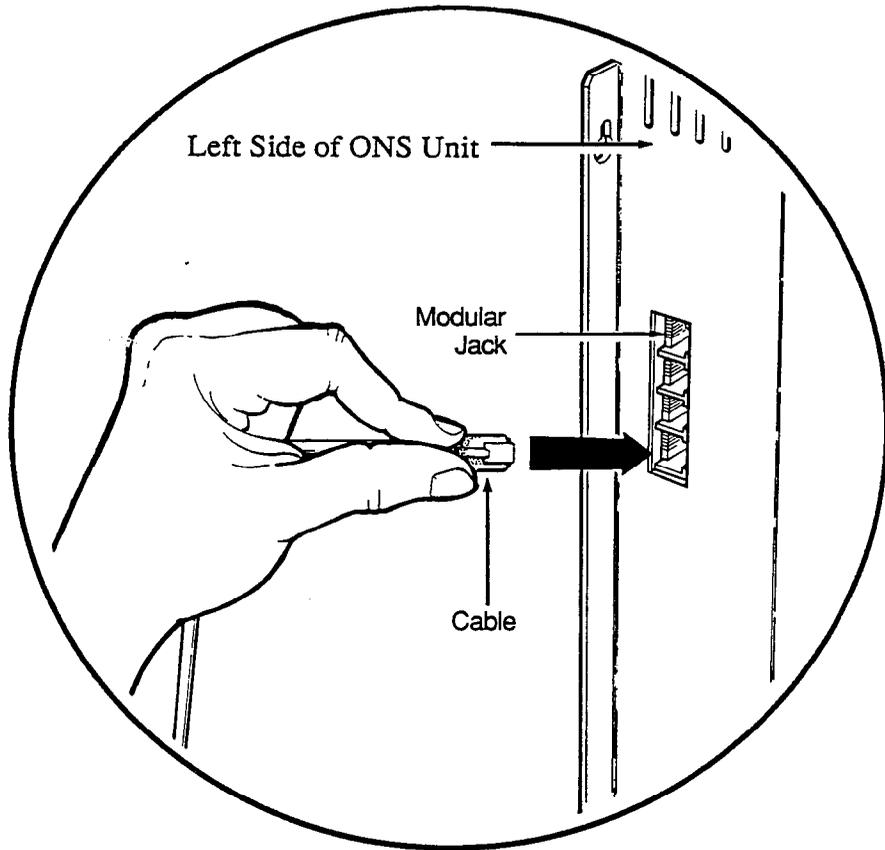

Figure 3-4: Connecting the KSU Station Ports to the ONS Unit
- Step 3 Connect each of the four station ports from the MDF to one of the four modular jacks on the left side of the ONS Unit. Use a DBU4 type cord (4-conductor mod-to-mod cord) with an RJ14C connector to make the connection (refer to Figure 3-4).